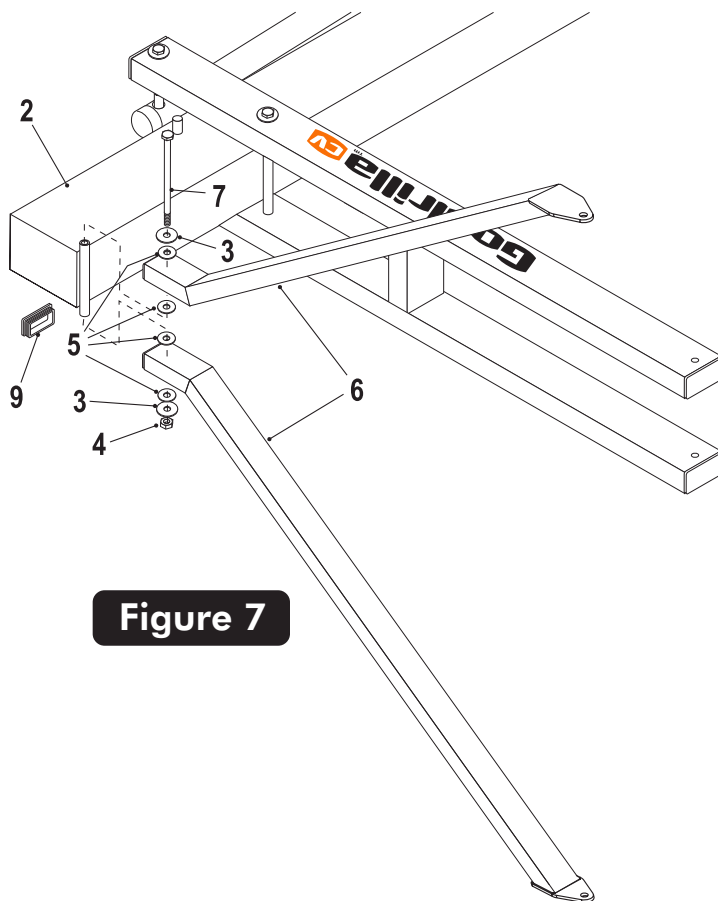

Figure 7
- Attach Upper Arms (#6) to Pole (#2), as shown in Figure 7, using a bolt (#7), two flatwashers (#3), four plastic washers (#5) and hex nut (#4).